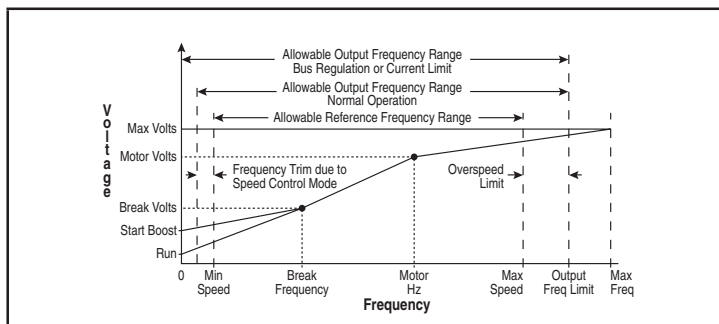

Figure 11.4 – Speed Limits
Sets the maximum allowable frequency the drive will output. Note that this is not maximum speed, which is set in parameter 82. Refer to figure 11.4. Maximum Speed (82) + Overspeed Limit (83) must be  $\leq$  to Maximum Freq (55).